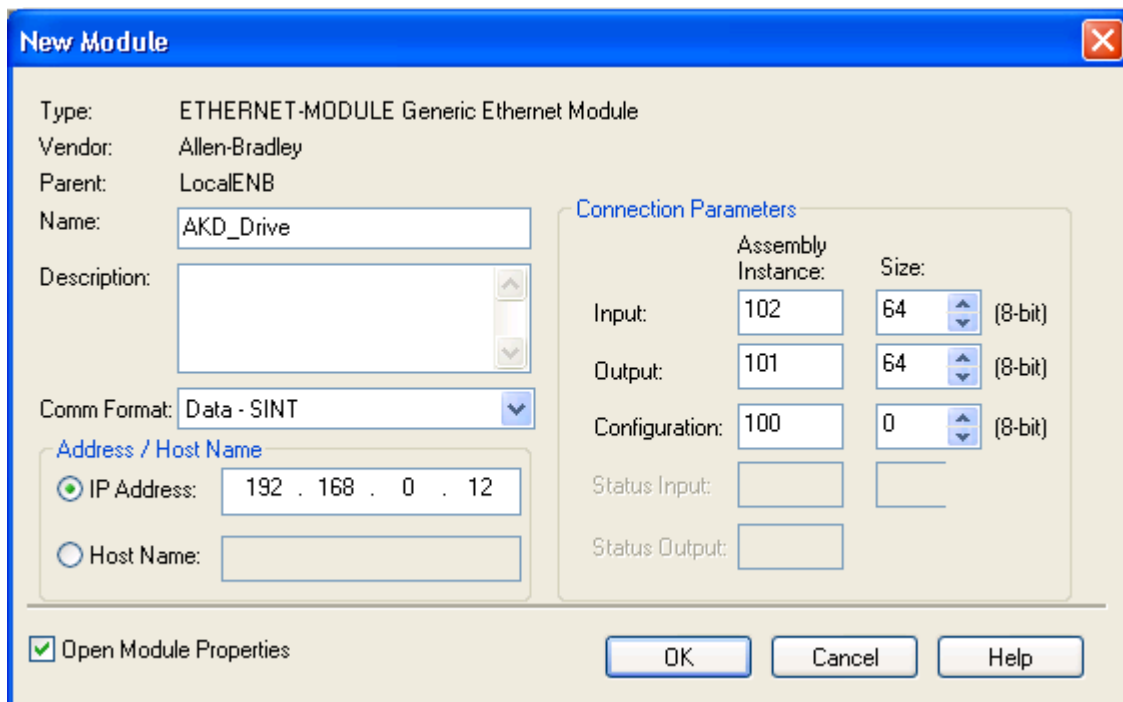

Figure 5-3: Entering Module Settings
4. Enter the settings for the new module as described below, make sure the “Open Module Properties” checkbox is checked, and click OK (Table 4 1: Module Setting Values & Figure 5-3: Entering Module Settings)